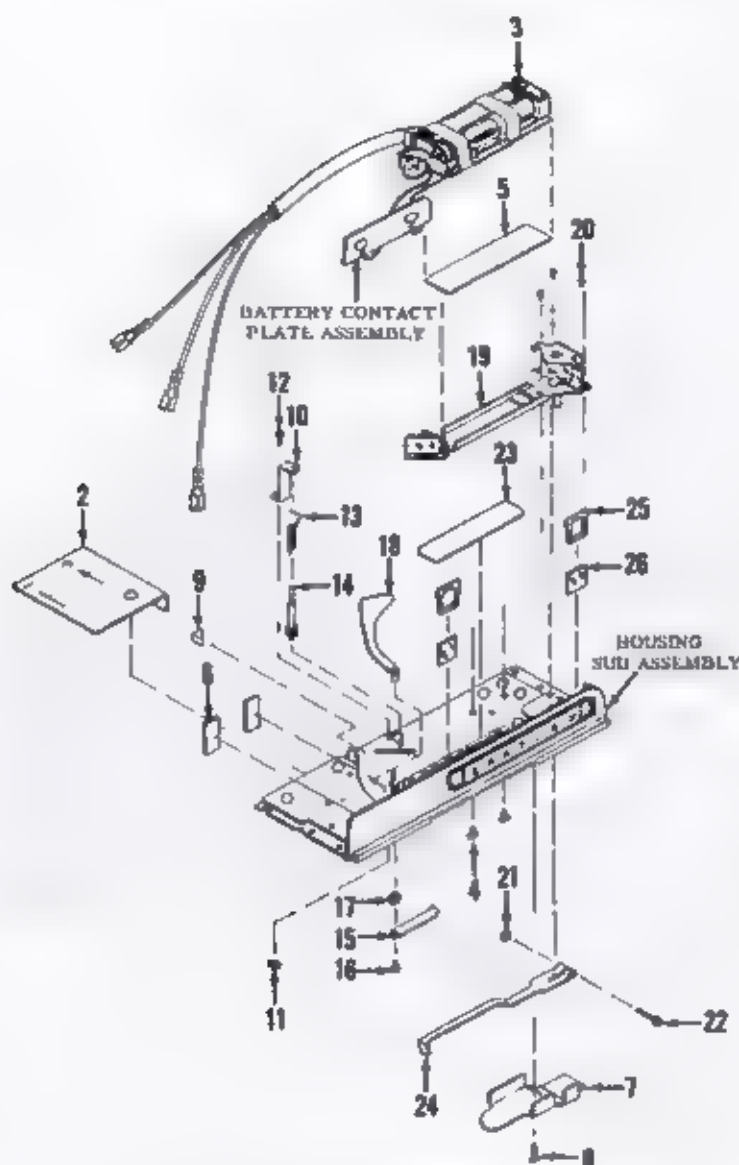

Figure 10. RANGEFINDER HOUSING COMPLETE
V. RANGEFINDER HOUSING COMPLETE - DIS- ASSEMBLY AND REASSEMBLY (Figure 10)
- a. Remove cemented guard (2).